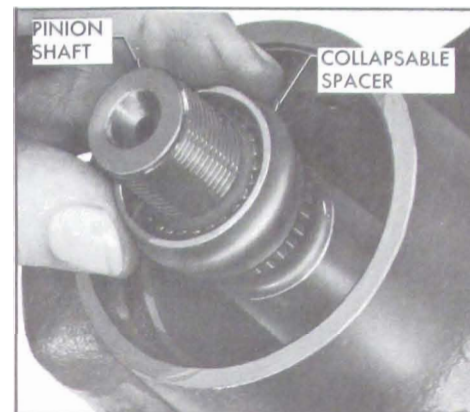

Fig. 6-24—Installing Collapsible Spacer
1. Position pinion assembly in carrier and install collapsible spacer as shown in Figure 6-24.